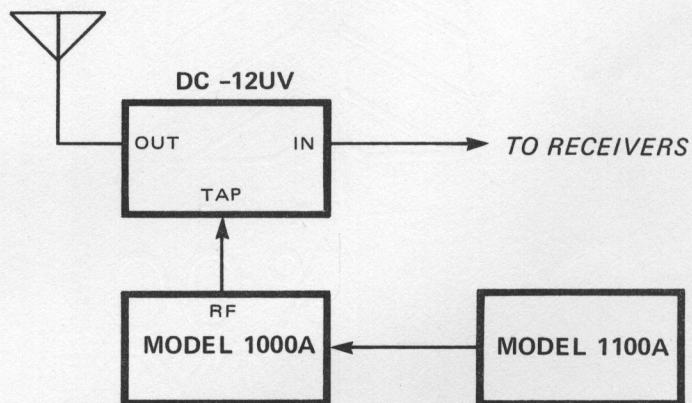

Fig. 2 Coupling to Master Antenna System
2. Connection may be made to a 75 Ω Master Antenna system using a directional coupler (Jerrold Model DC-12 UV or equivalent). Figure 2 shows the suggested method of connection. The 1000A should be connected to the directional coupler through a 50 Ω to 75 Ω transformer (Tekscan ZM57F or equivalent).